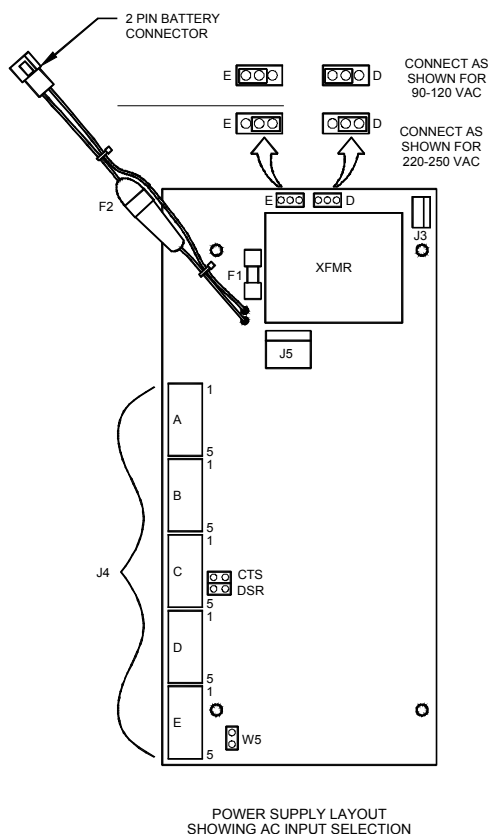

Figure 24: Power Supply Board
The Series 500 is factory-configured to operate on the AC power voltage specified on the original sales order and as indicated on the label inside. However, to change the AC input voltage (from 90-120 VAC to 220-250 VAC or vice versa) disconnect all power, remove the Oxygen Sensor and Power Supply Board, then move jumpers on the Power Supply Board as shown in Figure 24.
Before changing either fuse, first disconnect the instrument from any AC power source (disconnect at J5, Figure 24) then, disconnect the two-pin in-line battery connector to the Power Supply Board.
2. With the front panel door open, remove the power connector J5 from the Power Supply Board to the left of the Oxygen Sensor (See Figure 24).
1. With the front panel door open, remove the power connector J5 from the Power Supply Board to the left of the Oxygen Sensor (See Figure 24).